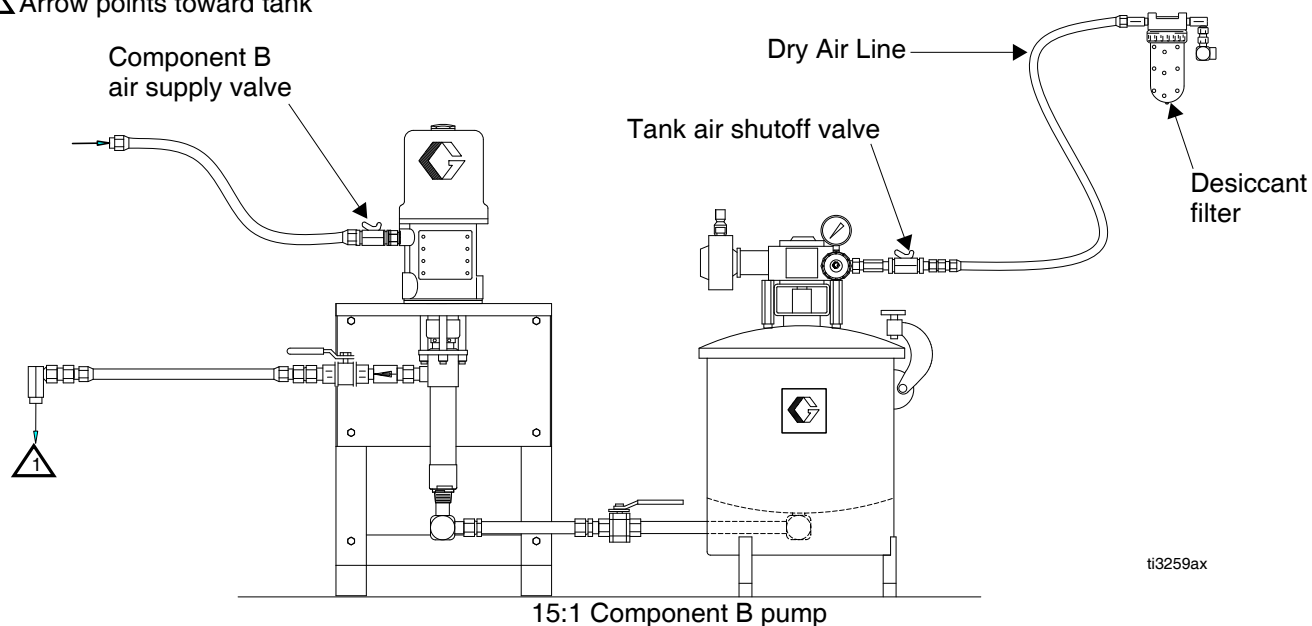

FIG. 28
1. Close the tank air supply shutoff valve, FIG. 28.